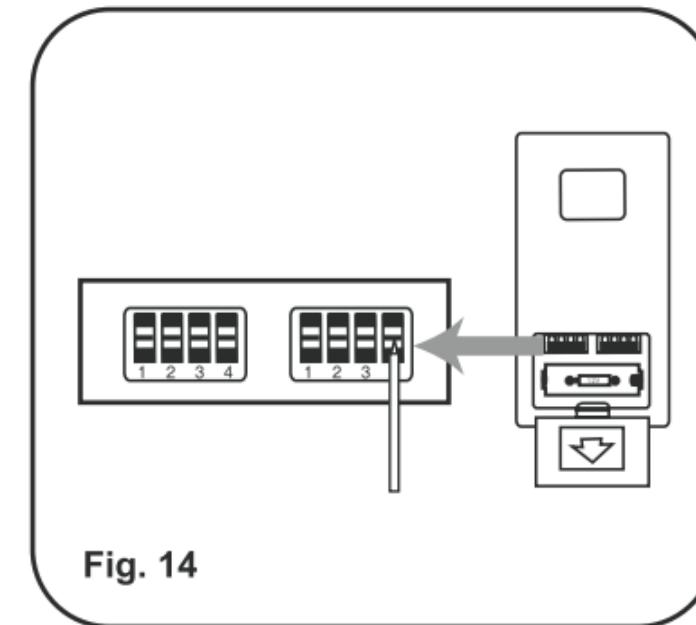

Fig. 14
**NOTE:** The Aire Control® System is equipped with a learning frequency function which has 256 code combinations to prevent potential interference from other remote units. The frequency on your Receiver and Transmitter units have been preset at the factory. (Fig.14)